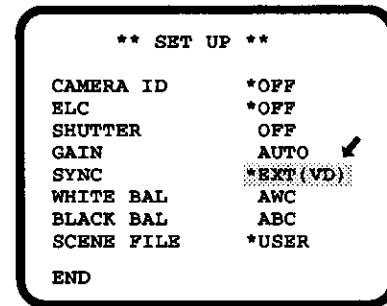

Fig.37.
- Connect the coaxial cable of the external VD signal to the VD Input Connector (21) and confirm that the "INT" position changes to "EXT (VD)" indication as shown in Fig.37.